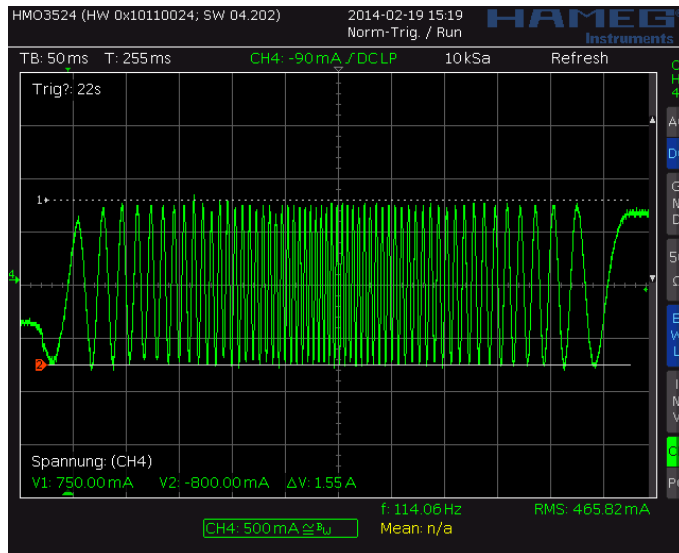
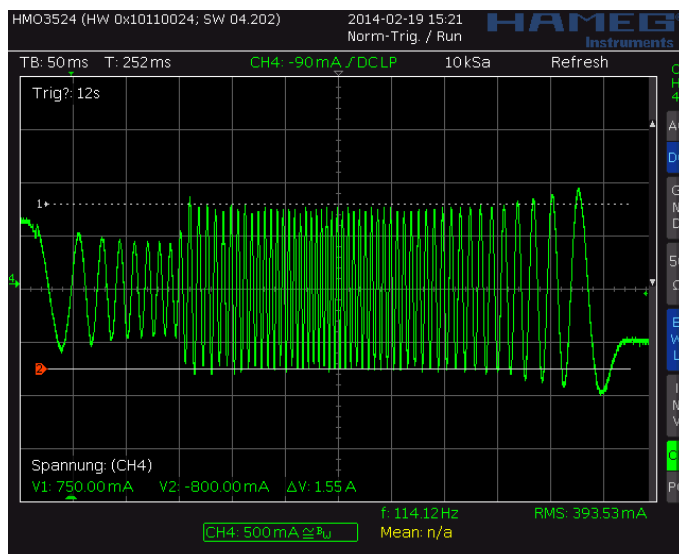
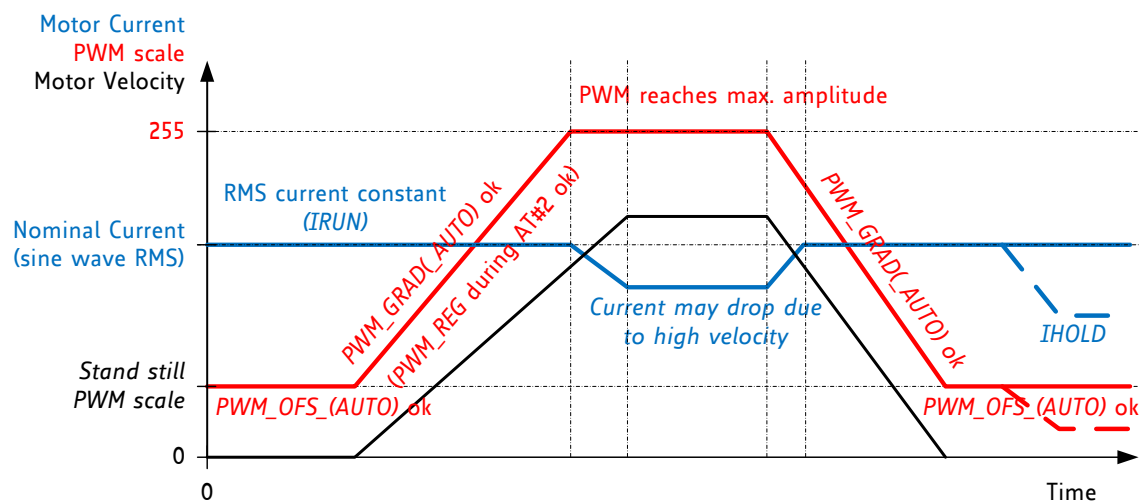

Figure 6.3 Scope shot: good setting for PWM_REG
Figure 6.4 Scope shot: too small setting for PWM_REG during AT#2
Figure 6.5 Successfully determined PWM_GRAD(AUTO) and PWM_OFS(AUTO)
In StealthChop voltage PWM mode, the autoscaling function (*pwm_autoscale* = 1, *pwm_autograd* = 1) regulates the motor current to the desired current setting. Automatic scaling is used as part of the automatic tuning process (AT), and for subsequent tracking of changes within the motor parameters. The driver measures the motor current during the chopper on time and uses a proportional regulator to regulate *PWM_SCALE_AUTO* in order match the motor current to the target current. *PWM_REG* is the proportionality coefficient for this regulator. Basically, the proportionality coefficient should be as small as possible to get a stable and soft regulation behavior, but it must be large enough to allow the driver to quickly react to changes caused by variation of parameters (e.g., change of mechanical load). During initial tuning step AT#2, *PWM_REG* also compensates for the change of motor velocity. Therefore, a high acceleration during AT#2 will require a higher setting of *PWM_REG*. With careful selection of homing velocity and acceleration, a minimum setting of the regulation gradient often is sufficient (*PWM_REG*=1). *PWM_REG* setting should be optimized for the fastest required acceleration and deceleration ramp (compare Figure 6.3 and Figure 6.4). The quality of the setting *PWM_REG* in phase AT#2 and the finished automatic tuning procedure (or non-automatic settings for *PWM_OFS* and *PWM_GRAD*) can be examined when monitoring motor current during an acceleration phase Figure 6.5.